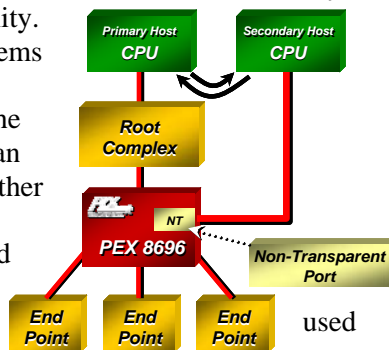

Figure 3. Non-Transparent Port
In Single-Host mode, the PEX 8696 supports a **Non-Transparent (NT) Port**, which enables the implementation of **dual-host systems** for redundancy and host failover capability. The NT port allows systems to isolate host memory domains by presenting the processor subsystem as an endpoint rather than another memory system. Base address registers are used to translate addresses; doorbell registers are to send interrupts between the address domains; and scratchpad registers (accessible by both CPUs) allow inter-processor communication (see Figure 3).